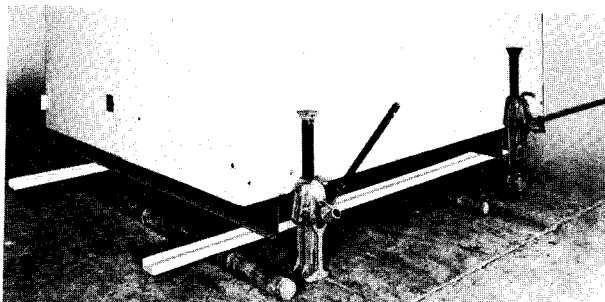

Fig. 3—Switchgear Raised, Rollers and Channels in Place Prior to Lateral Moving
3. For lateral moving, raise the units by jacks and remove the rollers. Place the rollers laterally with steel channels resting on the rollers as shown in Figs. 3 and 4. Move the units until they are directly over the installation site.